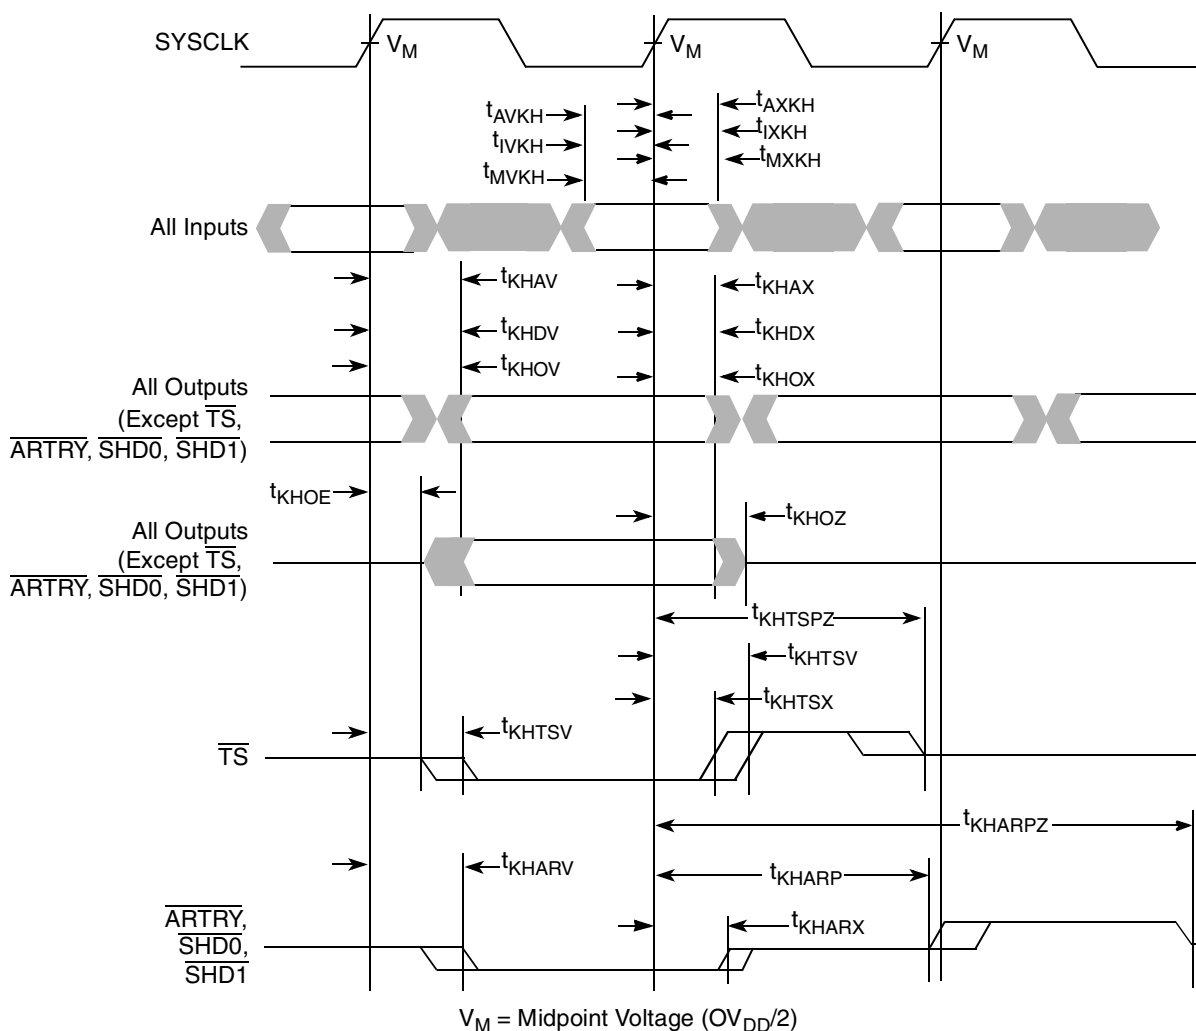

Figure 6. Input/Output Timing Diagram
2. The symbology used for timing specifications herein follows the pattern of $t_{(\text{signal})(\text{state})(\text{reference})(\text{state})}$ for inputs and $t_{(\text{reference})(\text{state})(\text{signal})(\text{state})}$ for outputs. For example, t_{VVKH} symbolizes the time input signals (I) reach the valid state (V) relative to the SYSCLK reference (K) going to the high (H) state or input setup time. And t_{KH0V} symbolizes the time from SYSCLK(K) going high (H) until outputs (O) are valid (V) or output valid time. Input hold time can be read as the time that the input signal (I) went invalid (X) with respect to the rising clock edge (KH) (note the position of the reference and its state for inputs) and output hold time can be read as the time from the rising edge (KH) until the output went invalid (OX).
4. According to the bus protocol, $\overline{\text{TS}}$ is driven only by the currently active bus master. It is asserted low and precharged high before returning to high impedance, as shown in Figure 6. The nominal precharge width for $\overline{\text{TS}}$ is $0.5 \times t_{\text{SYSCLK}}$, that is, less than the minimum t_{SYSCLK} period, to ensure that another master asserting $\overline{\text{TS}}$ on the following clock will not contend with the precharge. Output valid and output hold timing is tested for the signal asserted. Output valid time is tested for precharge. The high-impedance behavior is guaranteed by design.
6. According to the bus protocol, $\overline{\text{ARTRY}}$ can be driven by multiple bus masters through the clock period immediately following $\overline{\text{AACK}}$. Bus contention is not an issue because any master asserting $\overline{\text{ARTRY}}$ will be driving it low. Any master asserting it low in the first clock following $\overline{\text{AACK}}$ will then go to high impedance for 1 clock before precharging it high during the second cycle after the assertion of $\overline{\text{AACK}}$. The nominal precharge width for $\overline{\text{ARTRY}}$ is $1.0 t_{\text{SYSCLK}}$; that is, it should be high impedance as shown in Figure 6 before the first opportunity for another master to assert $\overline{\text{ARTRY}}$. Output valid and output hold timing is tested for the signal asserted. The high-impedance behavior is guaranteed by design.
Figure 6 provides the input/output timing diagram for the MPC7447A.